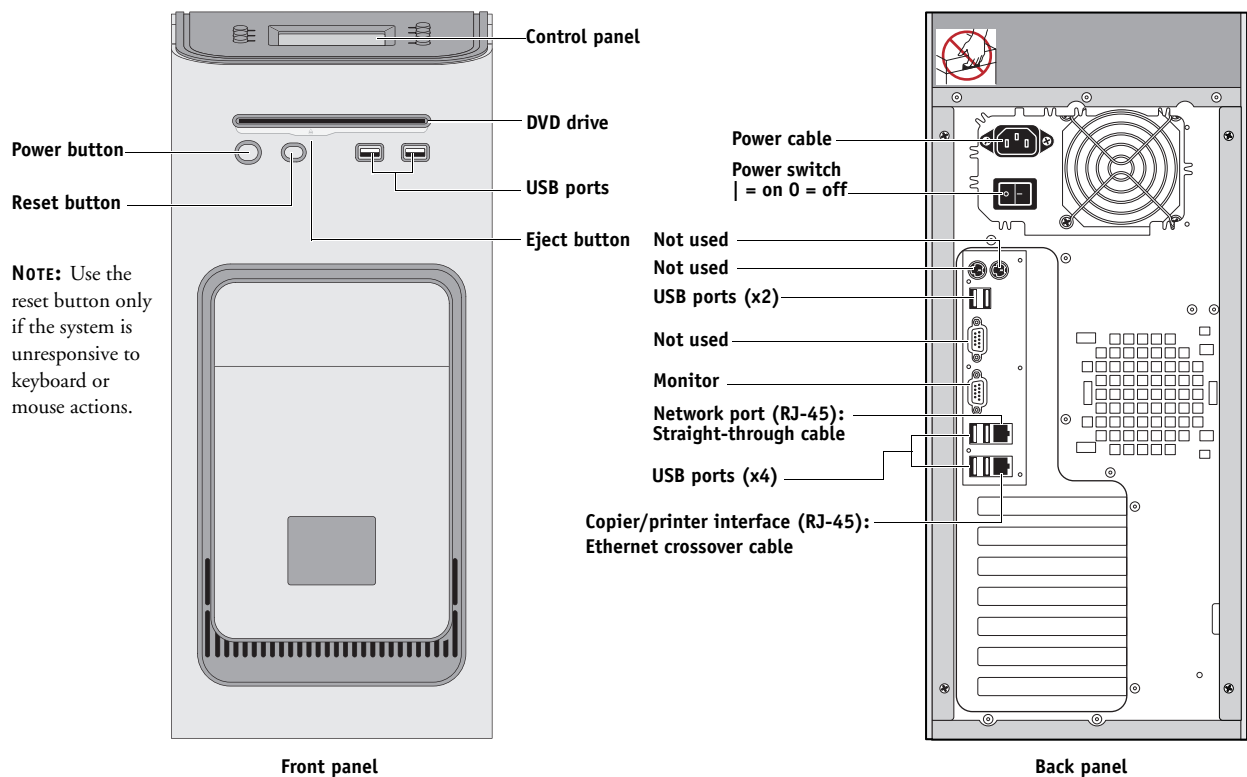

FIGURE 40: E-41A external cable connections
- All interface cables to the system are plugged into the proper connectors (see Figure 40).